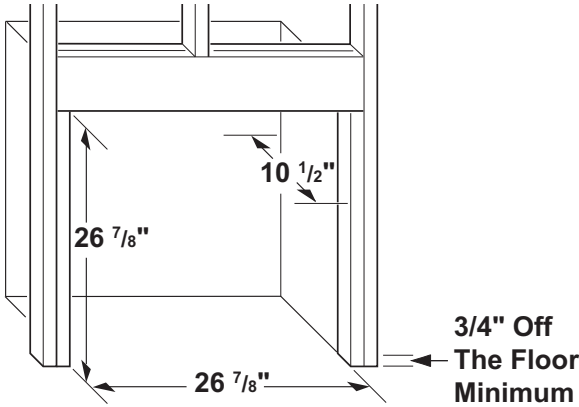

Figure 8 - Rough Opening for Installing in Wall
1. Frame in rough opening. Use dimensions shown in Figure 8, Page 12, for the rough opening.